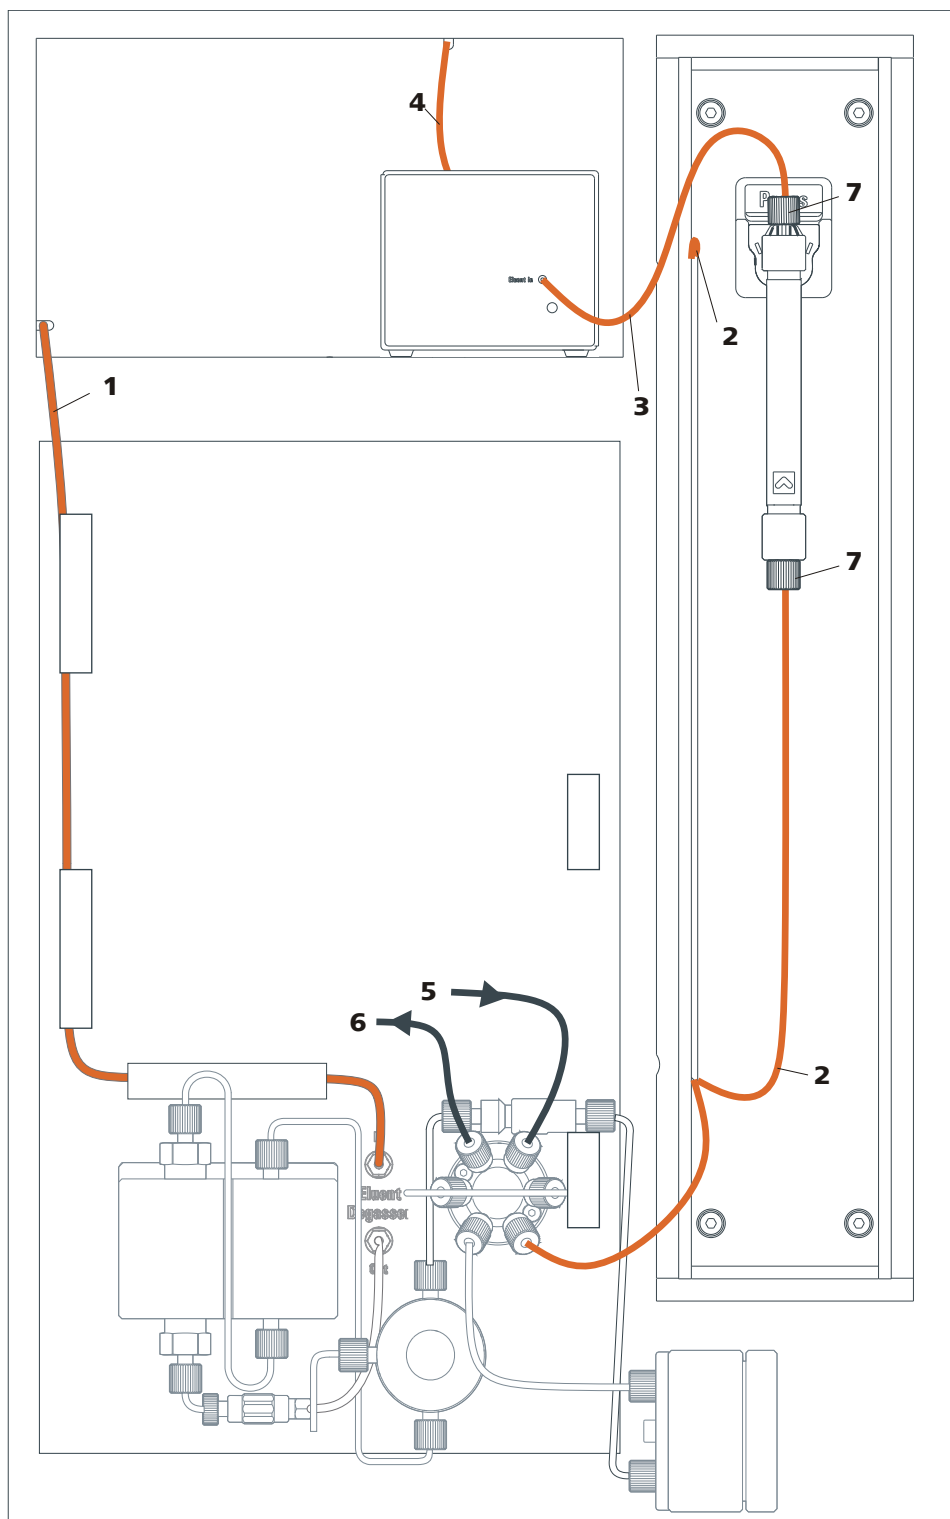

Figure 3 Installation diagram 881 Compact IC pro – Cation
- an installation diagram (see *Figure 3, page 13*), showing a completely installed 881 Compact IC pro – Cation.